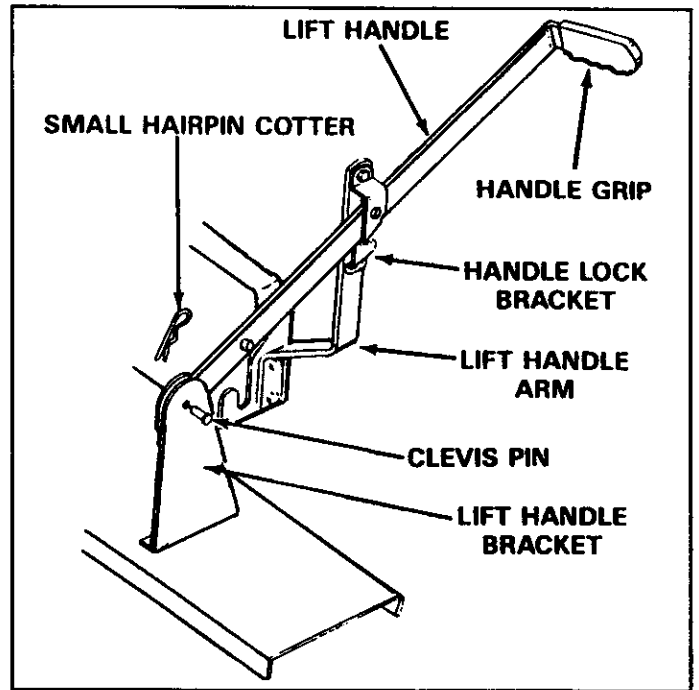

FIGURE 12
- Install vinyl grip on lift handle as shown in figure 12.
- Slide lift handle down between lift handle arm and handle lock bracket. See figure 12.
- Assemble lift handle to lift handle bracket using 3/8" x 3/4" clevis pin and 3/32" (small) hairpin cotter. See figure 12.